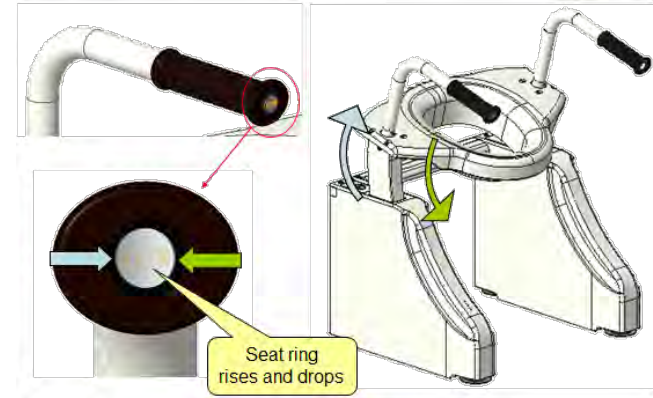

Figure 12 Use of control switch
2) The control switch of the equipment is in the front of handrail B, users can continuously press the left and right key to control the rise and fall of the equipment (as shown in Figure 12). The equipment stops running when releasing the switch.